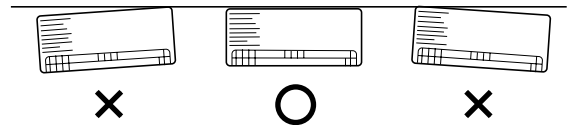

Fig. 3-62
- (2) Check with a tape measure or carpenter's level. This is important so that the unit is correctly installed. (Fig. 3-62)
- (3) Make sure the panel is flush against the wall. Any space between the wall and unit will cause noise and vibration.